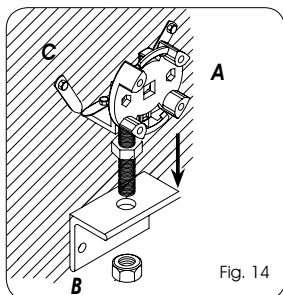

Fig. 14
2. Secure the adjustable motor support (Fig.14 ref. A) in the hole of the square (Ref. B), as shown in figure 14